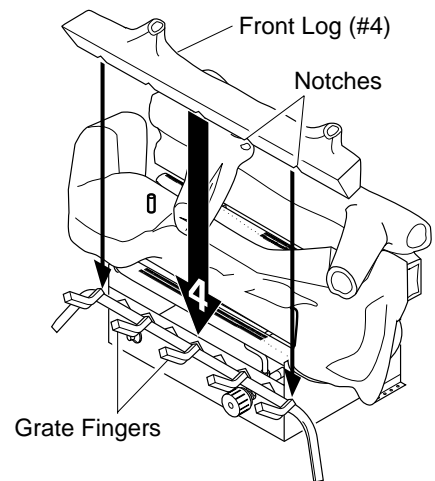

Figure 24 - Installing Front Log (#4)
- Locate the notches in the bottom of the front log (#4). Place the front log on the grate fingers. Make sure the notches of the front log line up with the grate fingers (see Figure 24).